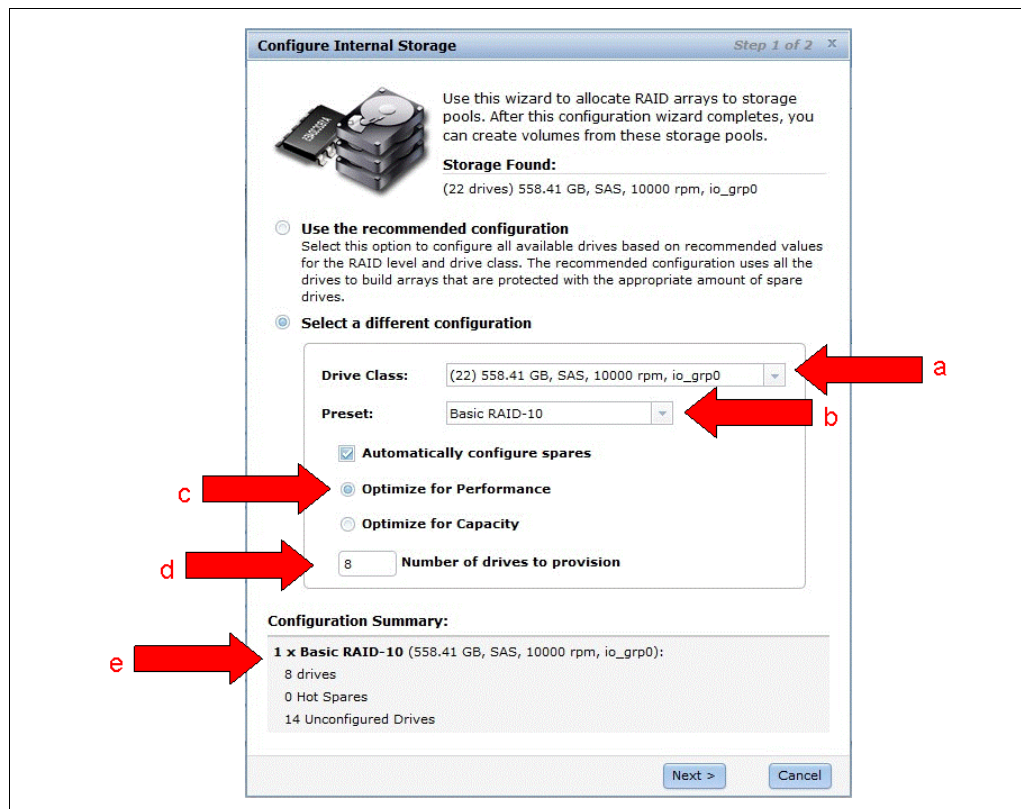

Figure 9-7 Configure Internal Storage window
4. The Configure Internal Storage window is displayed. The default settings are shown in the window. Proceed as shown in Figure 9-7 on page 145.